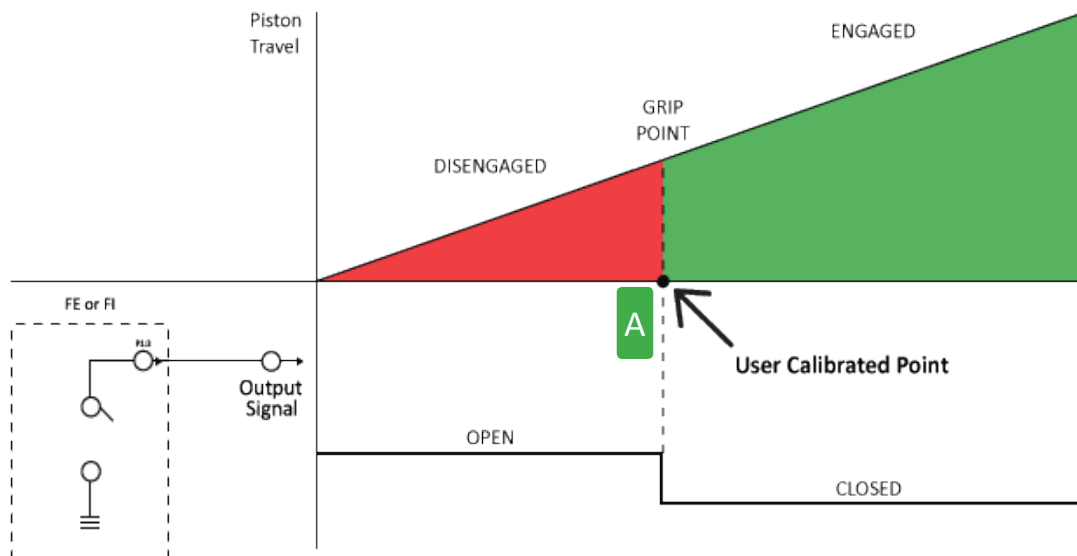

Figure 13. Single Point Calibration Graph
3. Apply 8-24V to pin #2 and hold for 2 seconds to define point A (Refer to Figure 13) - Output signal begins “flashing” (alternating between open and closed states) to signify the user has entered calibration mode